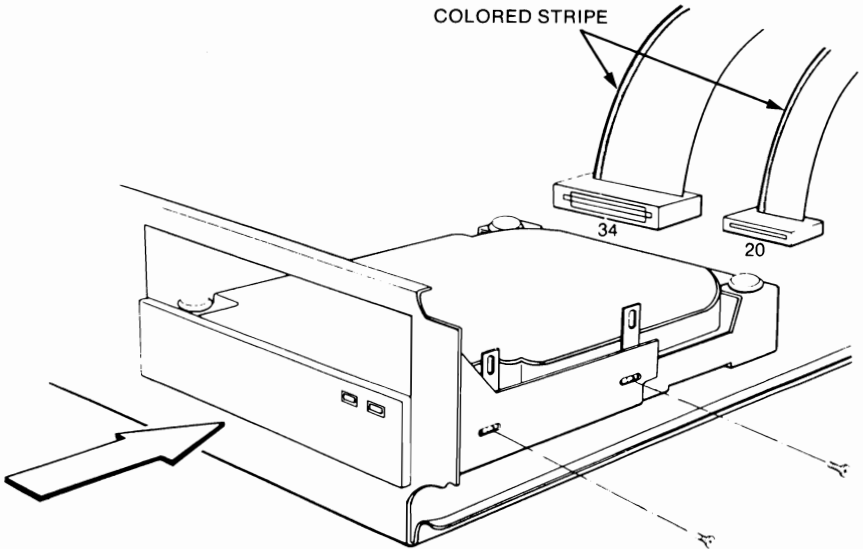

Figure 10: Installing the Hard Disk
6. Insert the drive partially into the drive space with the metal cover face up. Connect the cables from the controller to the drive according to Figure 10. The colored stripe on the cables should be on the left side as you face the front of the drive.
8. Slide the drive completely into the drive space, and connect the provided pan head screws to secure the disk drive mounting bar to the system chassis (see Figure 10). DO NOT over-tighten the screws or use long screws; doing so may damage the drive.